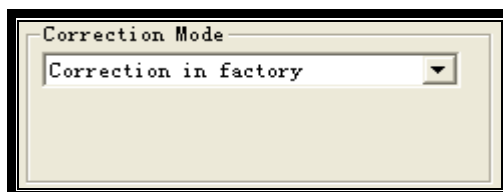

Fig.3-6
Step6: In the pop up window with the title of “ΣColorbrate Charmer”, find a drop down option box in “Correction Mode” frame and chose the “Correction in factory” option as shown in Fig. 3-6.